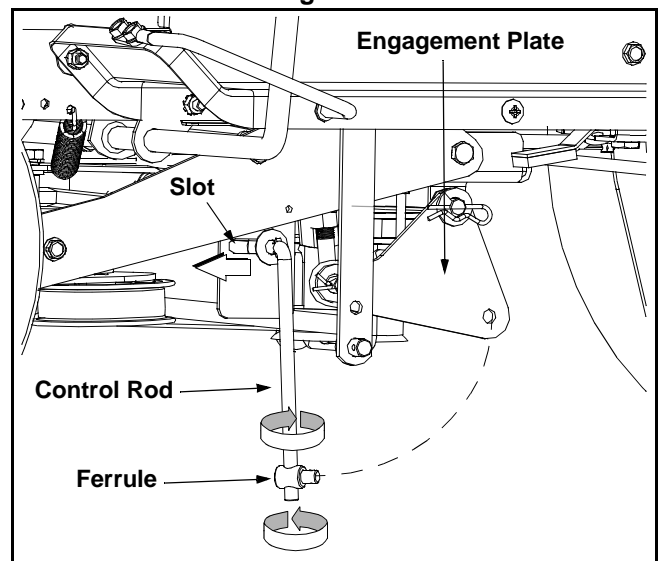

Figure 21
4. Remove the ferrule from the hole in the engagement plate and slide the control rod as far forward as it will go in the slot in the idler bracket. See Figure 21 .